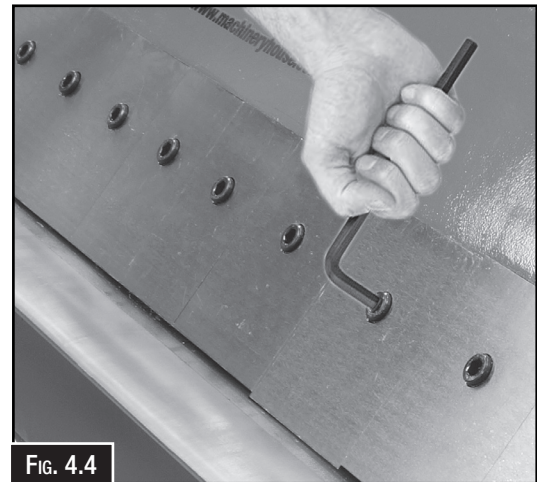

FIG. 4.4
3. If a finger is misaligned, then loosen the cap screw just enough to move it up or down. (Fig. 4.4)